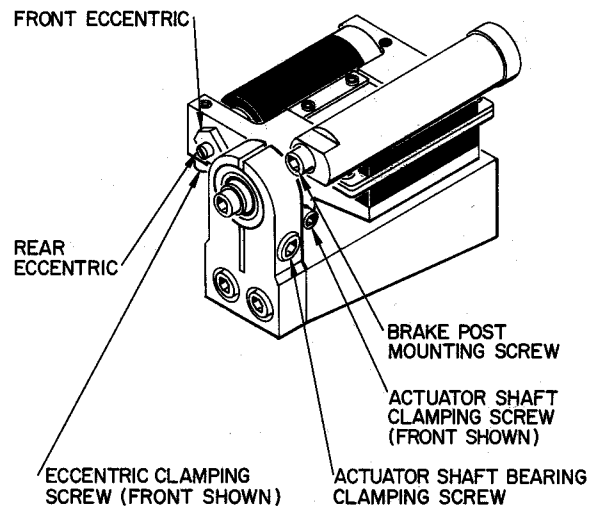

Figure 7-3
Step 2: Referring to Figure 7-3, loosen the two socket head cap screws (A) which clamp the capstan roller yoke to the actuator shaft.